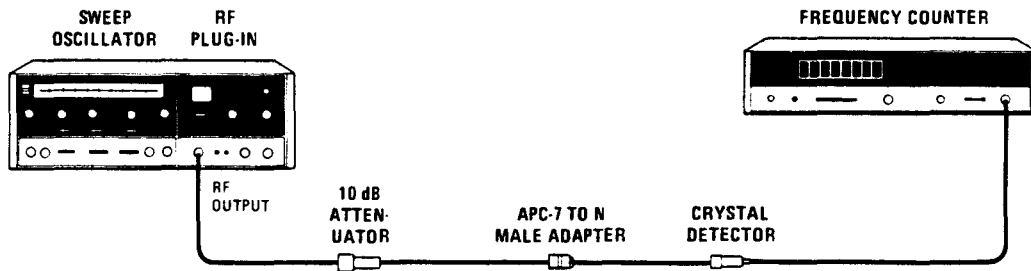

Figure 4-5. Amplitude Modulation Test Setup
- b. Connect equipment as shown in Figure 4-5.